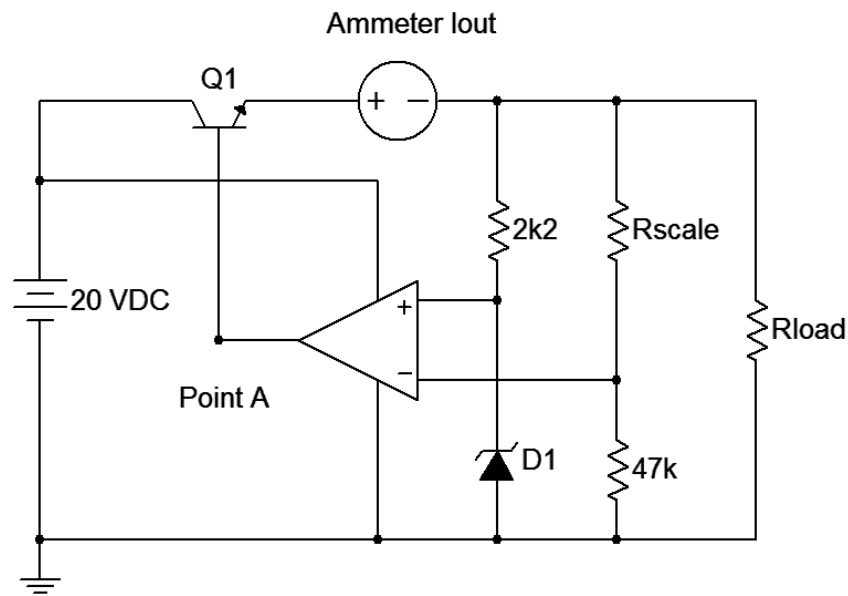

Figure 1
3. Connect the circuit of Figure 1 using an R_{scale} of $47k \Omega$, and an R_{load} of $100k \Omega$.